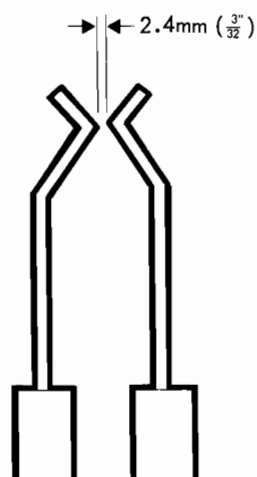
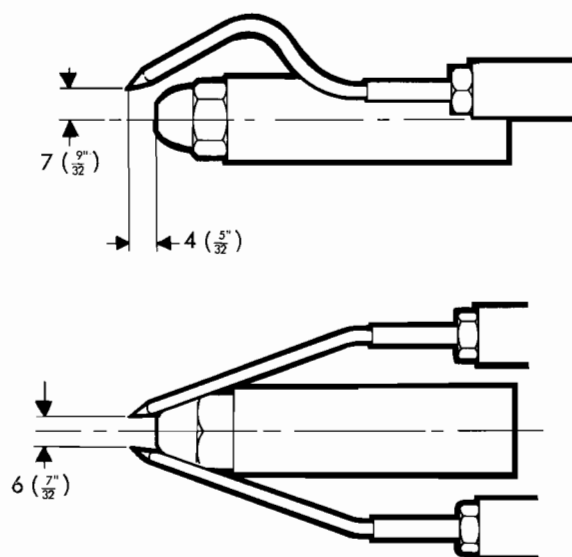

Fig. 17
Fig. 18
(e) Should the motor start and no ignition spark be observed, the H/T lead connections require checking and it should be ensured the electrodes and insulators are in a clean state, also that the electrode gap is at its correct setting (refer Fig.17) - Excluding Oertli burners. When Oertli burners selected, refer Fig. 18 for electrode setting. Evidence of any form of carbon bridge or damage at the electrodes should be observed and the electrode insulators should be examined for any form of crack or other damage detrimental to efficient ignition.
3. Check that the electrodes and porcelain insulators are clean, undamaged and free from any form of carbon build-up, also that the electrode spark gap is correctly set (Fig. 17) – NuWay and B.G.O.B., (Fig. 18) – Oertli. The complete ignition assembly should be removed from the unit and removal of nozzle/s effected by use of a nozzle spanner. Unscrew inner nozzle cone and clean nozzle body, swirler and cone separately. AVOID SCRATCHING. Flush oil away with solvent, under running tap or by use of an air line. Scrape only when dirt visible – a suggested cleaning aid being paper or cardboard rather than wood, but NEVER USE A METAL TOOL OR ANY ABRASIVE SUBSTANCE. On reassembly of the nozzle care should be taken to keep all parts clean. Similarly, during the partially dismantled state of the burner, cleanliness should be maintained and every precaution taken to ensure no dirt or other foreign matter enters the open oil pipes.